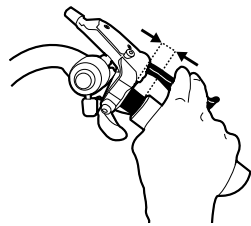

Figure 11. Distance between the brake lever and the grip
2. Adjust the distance of the brake lever from the grip in order to easily use the brake lever with two fingers (*Figure 11*).